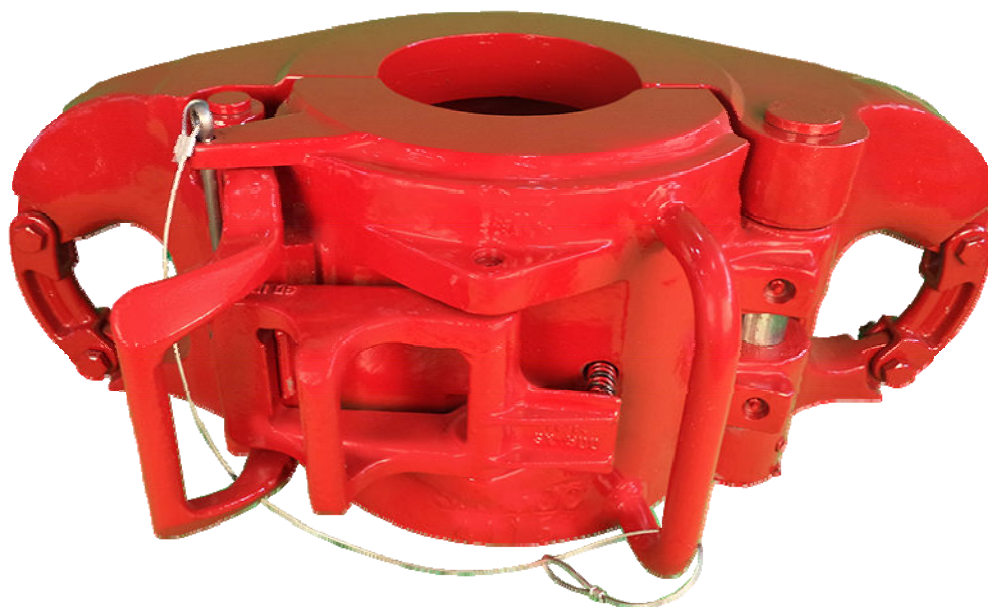

Figure 2
The SX elevator (Figure 2), designed for handling large, collar type casing, is sturdier and has a safety latch requiring two (2) handed operation. The casing size ranges up to 36" with load rating of 350 and 500 tons.